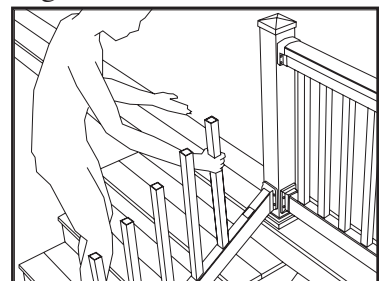

Fig. 4
8. Insert balusters into pre-routed holes in bottom rail. Balusters are available for 36" and 42" rail height kits based on the traditional two-inch clearance from the bottom rail to the mounting surface. **Note: Colonial and Square balusters are available for 36" rail height kits; only Square balusters are available for 42" rail height kits. Be sure to check with your local code officials for any height requirements. (FIG.4)**